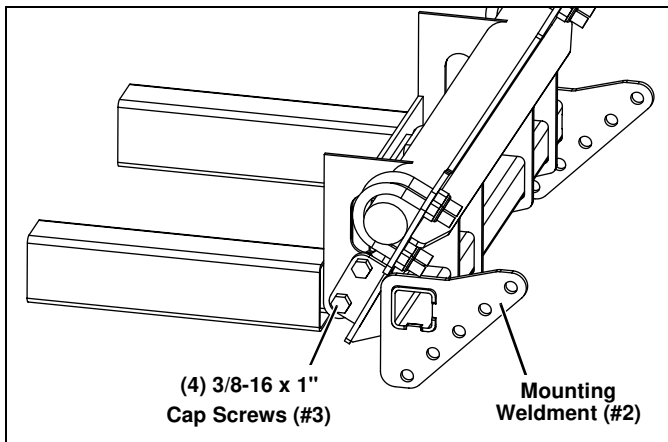

Figure 7
7. Attach the vehicle's frame gusset to the Mounting Weldment (#2) with (4) 3/8"-16 x 1" Cap Screws (#3) and (4) 3/8"-16 Locknuts (#4). Two on each side. (See Figure 7.)